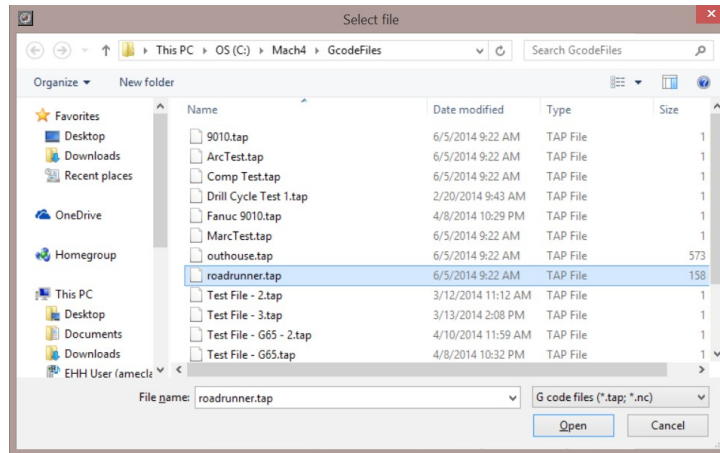

Figure 2-3: Select file
- **Open Gcode File:** Opens the "Select File" dialog, figure 2-3. The user can then navigate to the desired G code file to select and open it in Mach4.